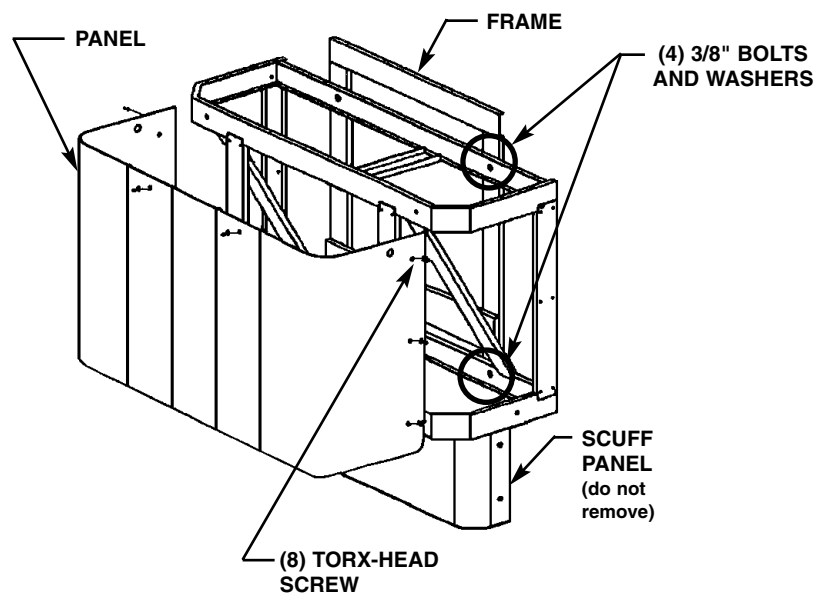

Figure 3
1. Remove the eight Torx-head screws securing the panel to the frame, and remove the panel (see Figure 3).
4. Once you have positioned the frame such that it is level and resting on the floor, and flat against the wall or shimmed, use four 3/8" bolts and washers to mount the frame to the wall (Figure 3).
4. After testing is complete, reinstall panel to frame. Fasten panel with eight Torx-head screws provided (see Figure 3 on page 6).